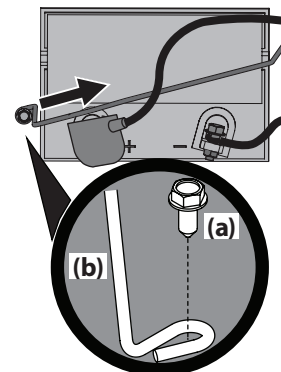

Figure 18
- Remove the hex washer screw (a) securing the battery hold-down bracket (b) to the frame. Then flip the battery hold-down bracket (b) up to free the battery. See Figure 18.